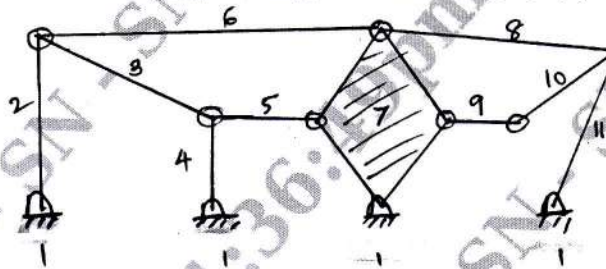

Fig Q2(b)
- b. Determine the Degree of freedom of the linkage shown in Fig Q2(b).